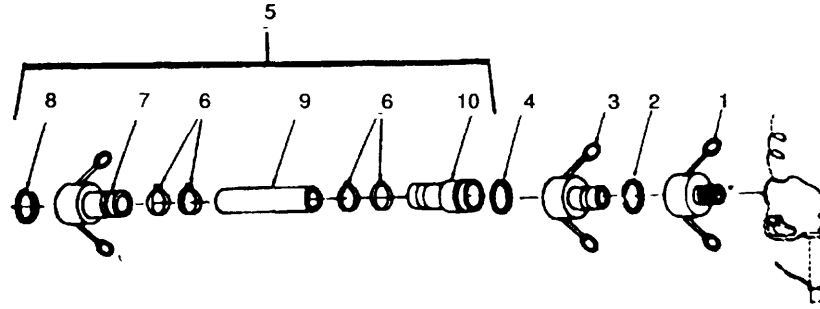
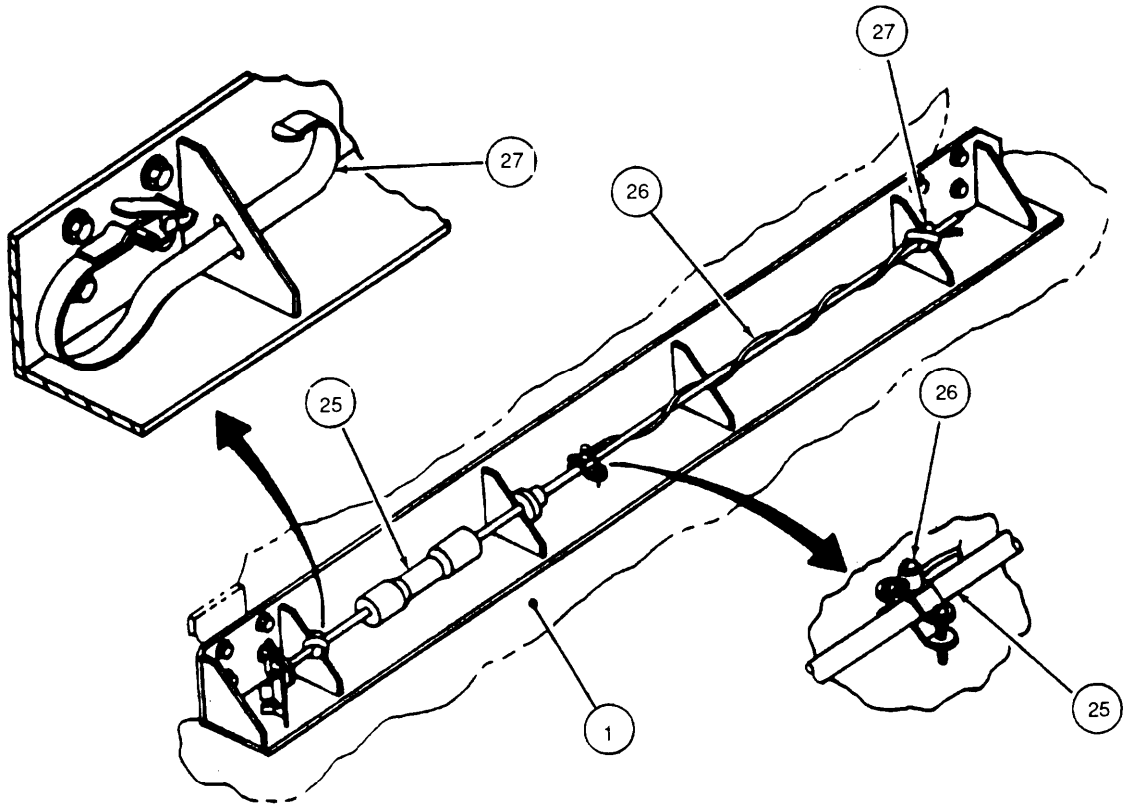
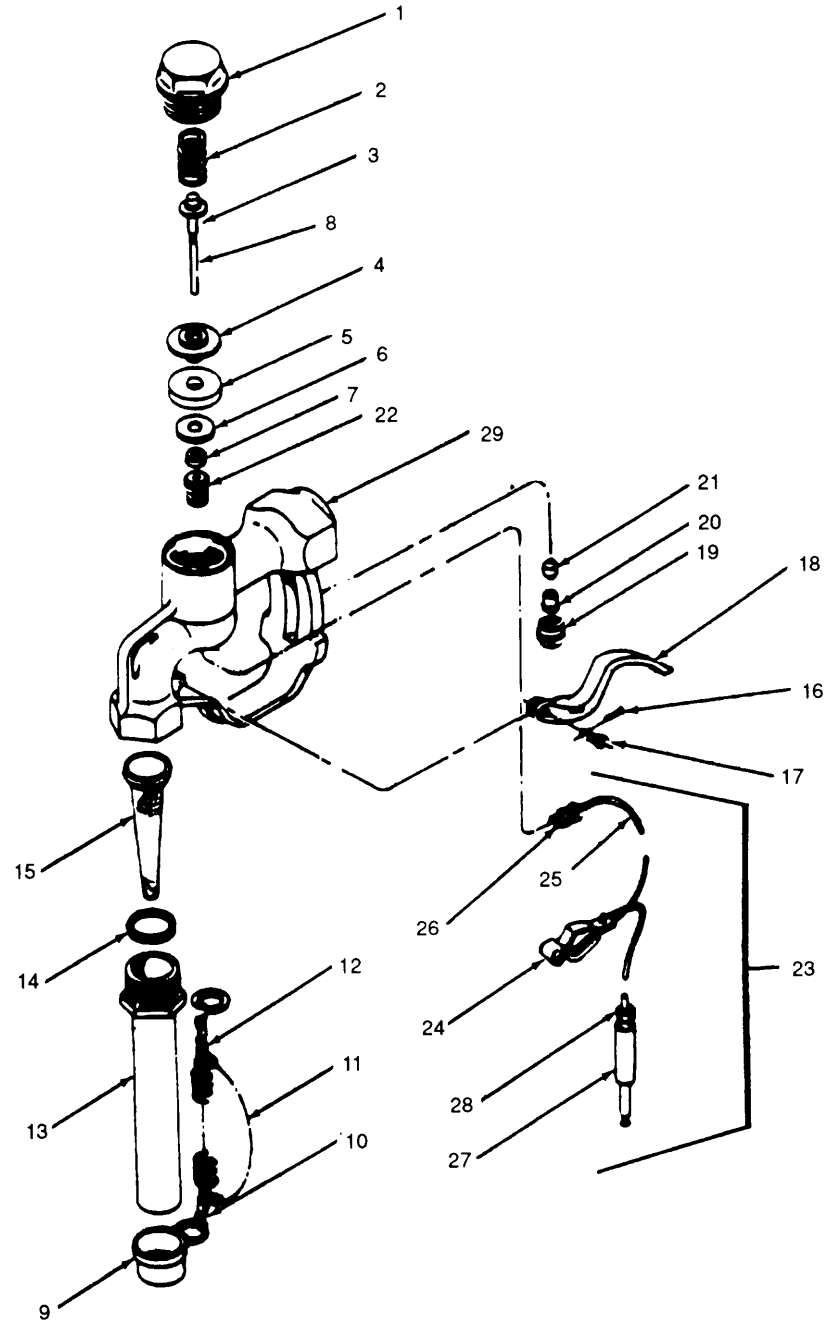

Figure 4-6. Hose Assembly.
Figure 4-14. Ground Rod Stowage.
Figure 4-16. Nozzle Assembly. All Other Models.
- (14) Run strap assemblies (27, Figure 4-14) through slots in tank mounting angle (7, Figure 4-6).
- (15) Attach ground cable assembly (26) to ground rod (25). Wrap cable around rod. See Figure 4-14.
- (16) Position ground rod (25) on angle and secure in place with straps.
b. All Other Models. Remove the spout assembly (13, Figure 4-16) from the body (29) and remove strainer (15) and clean.